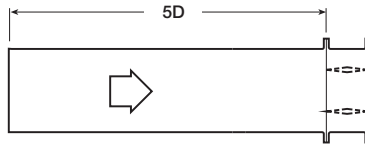

**Figure 5.2**
**Figure 5.2** Illustrates a ducted damper exhausting air into an open area. This configuration has a lower pressure drop than Figure 5.5 because entrance losses are minimized by a straight duct run upstream of the damper.